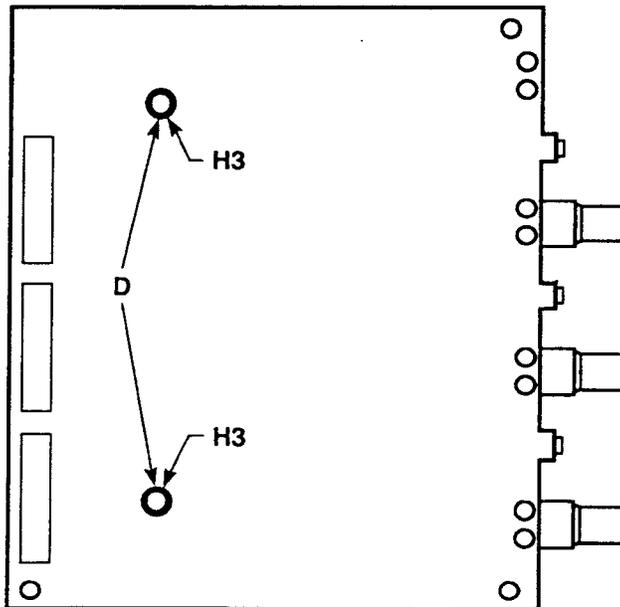

Figure 16-10. A2 Input Board Removal
- 1 [D]: Remove two screws (H3) as shown in Figure 16-10.